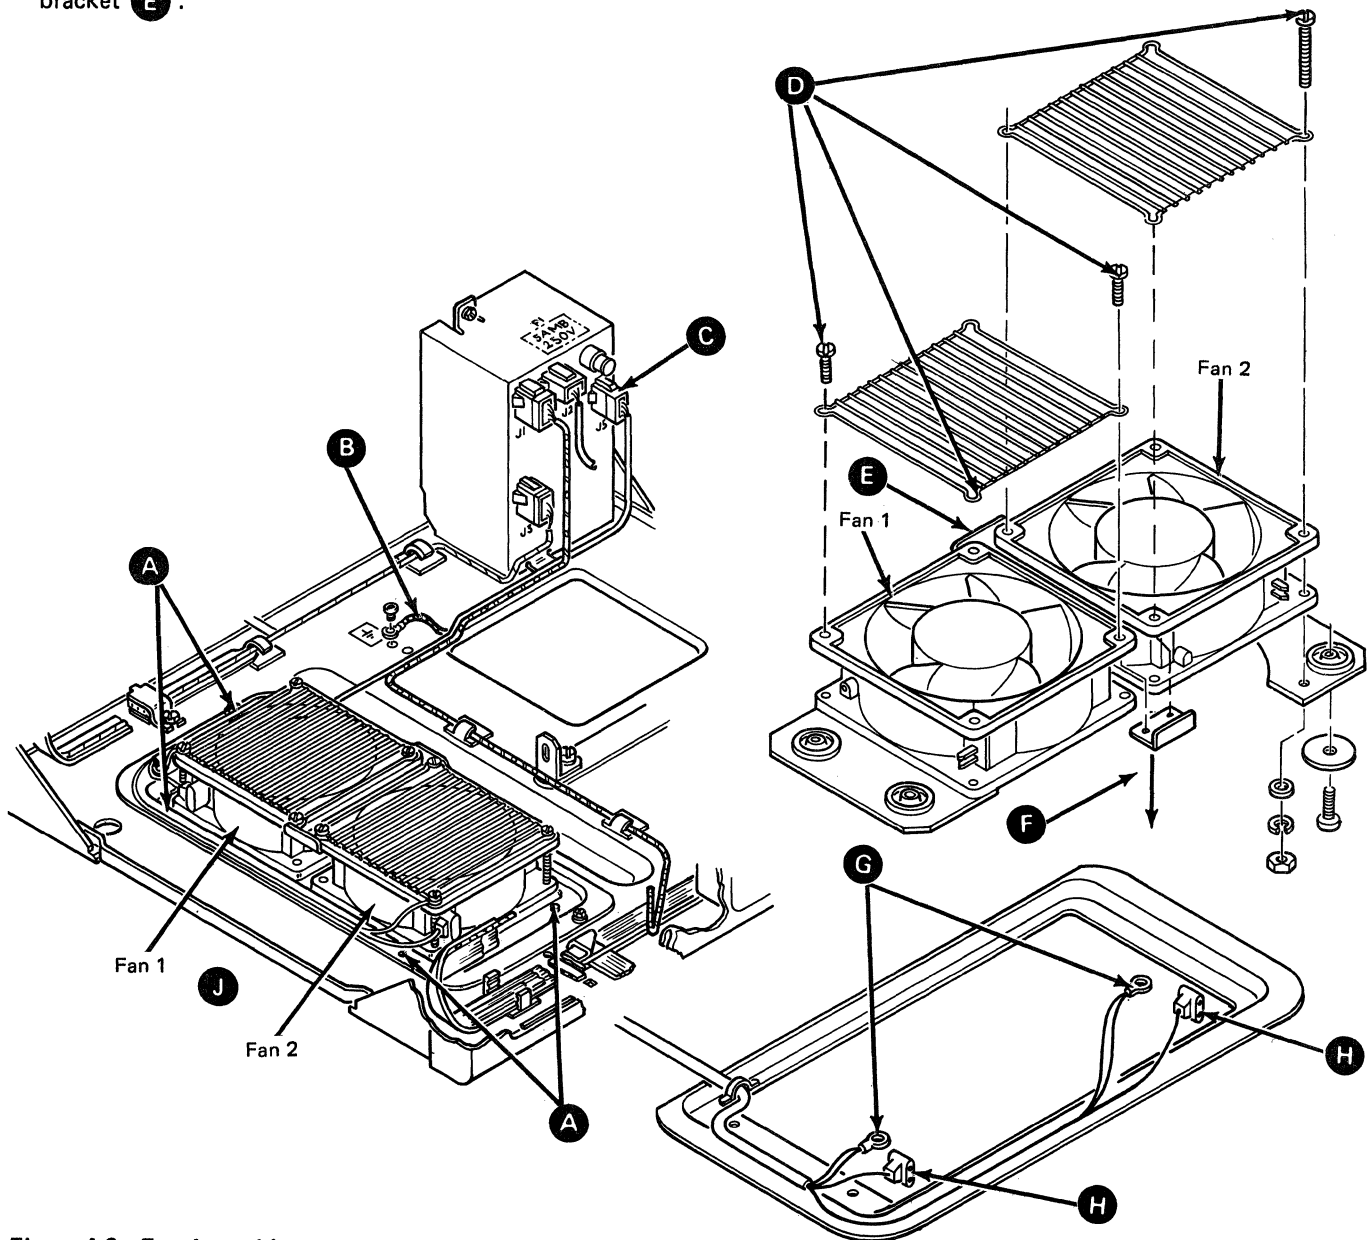

Figure 4-9. Fan Assembly
4.8 Fan Assembly, Removal and Replacement (Figure 4-9)